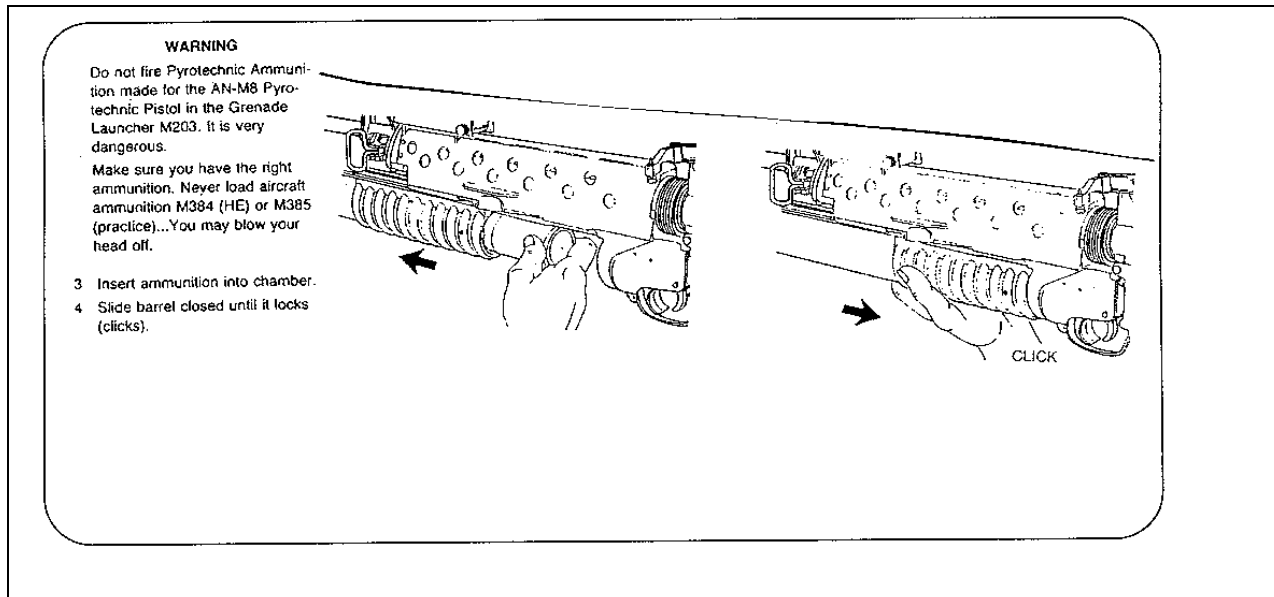

Figure 8. Loading
(2) Loading. Insert ammunition into chamber, slide barrel closed until it locks. Make sure you have the right ammunition. (See Figure 8.)